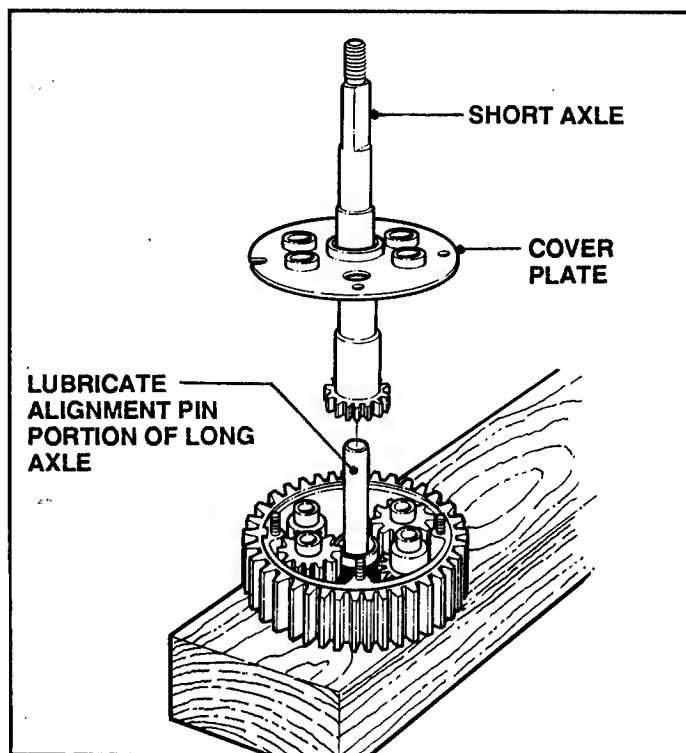

FIGURE 4.12
14. Slip axle onto pin. See Figure 4.12.
16. Install remaining cover plate. Refer to Figure 4.12.